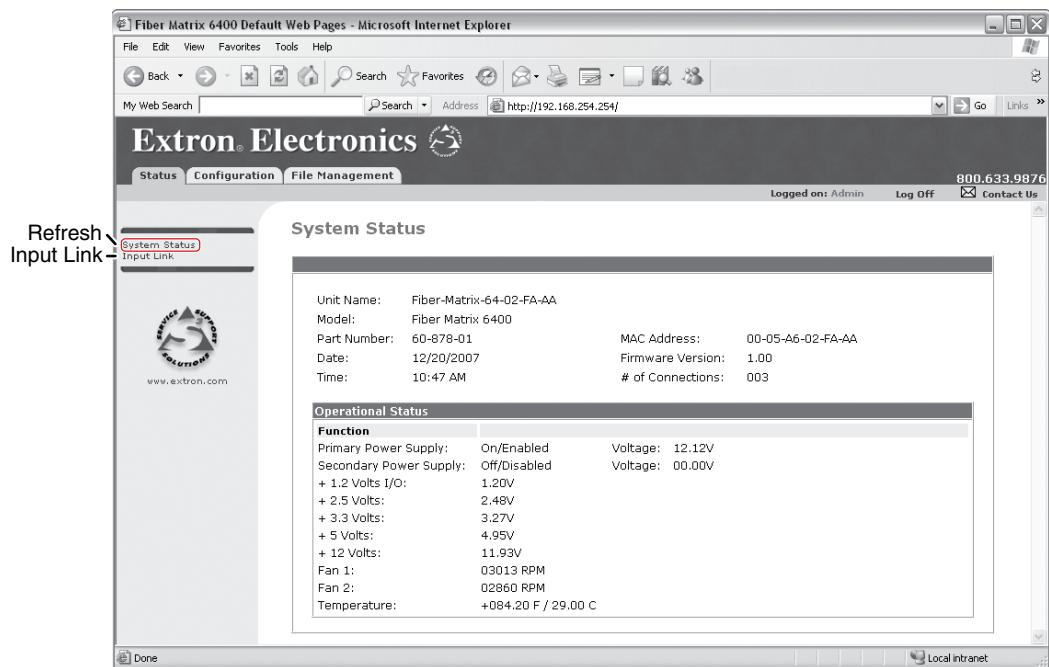

Figure 6-2 — System Status page
- c. **If neither of the above conditions is true**, the switcher downloads the factory-installed default startup page, “nortxe_index.html” (figure 6-2), also known as the System Status page.
The System Status page (figure 6-2) provides an overall view of the status of the matrix switcher, including individual voltages, and the serial port status (if applicable). The System Status page is the default page that the switcher downloads when you connect to the switcher. Access the System Status page from other pages by clicking the **Status** tab.